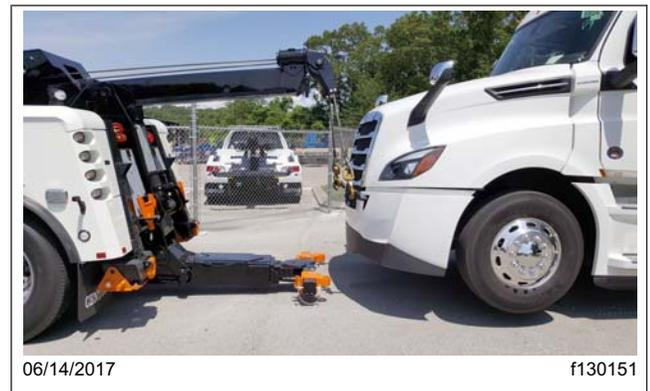

Fig. 26.8, Moving the Stinger and Crossbar Under the Bumper
5. Lift the front of the truck until there is enough clearance for the stinger and crossbar to pass under the bumper. See Fig. 26.8.